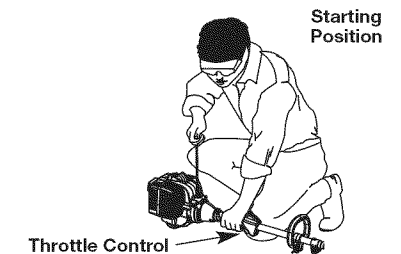

Fig. 18
**WARNING:** Avoid accidental starting. Make sure to be in the starting position when pulling the starter rope (Fig. 18). To avoid serious injury, the operator and unit must be in a stable position while starting.
- Crouch in the starting position (Fig. 18). Do not squeeze the throttle. Pull the starter rope with a controlled motion until the unit starts.
- Crouch in the starting position (Fig. 18). Do not squeeze the throttle. Place the Plug-In Power Start or Power Bit Start into the back of the unit. Refer to the *Operation* section of the Plug-In Power Start or Power Bit Start operator's manual.
- Press and hold the ON (I) button of the Plug-in Power Start or Power Bit Start equipped drill in intervals no longer than 4 seconds each until the unit starts.
- Wait and allow the unit to idle for 5 - 10 seconds. If the unit stops running during this time, squeeze the throttle control, then press and hold the ON (I) button of the Plug-in Power Start or Power Bit Start equipped drill in intervals no longer than 4 seconds each until the unit starts.